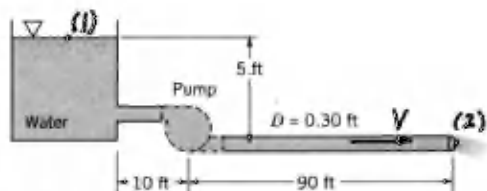

FIGURE P8.13R
8.13R (Single pipe with pump) Without the pump shown in Fig. P8.13R it is determined that the flowrate is too small. Determine the horsepower added to the fluid if the pump causes the flowrate to be doubled. Assume the friction factor remains at 0.020 in either case.